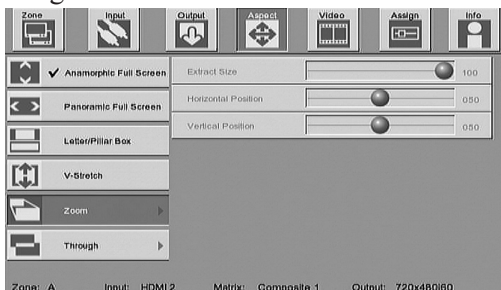

Figure 69
2. Select the ASPECT Icon, then select the desired Aspect Ratio. Refer to figure 69.